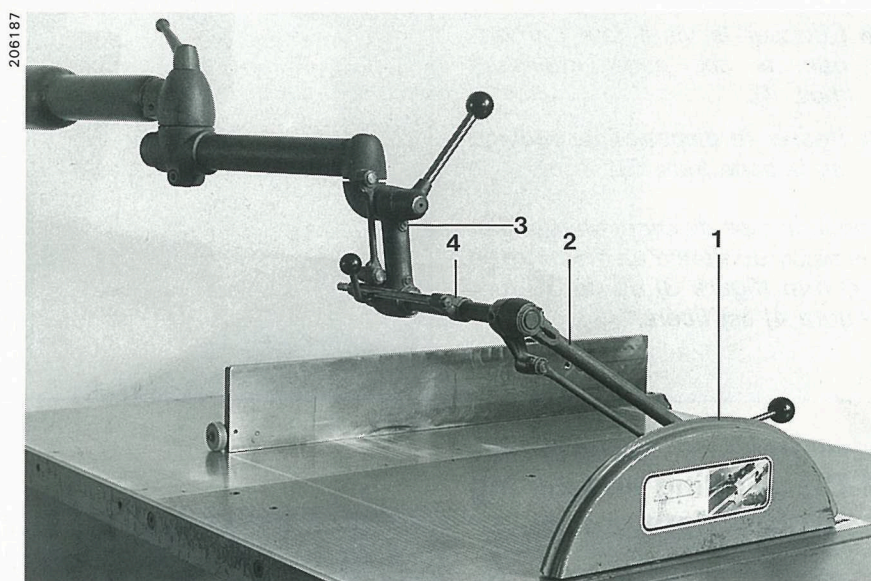

Bild 1 / Figure 1
sind zu demontieren (Bild 1).
(pos. 3) [la broche guidée (pos. 4) également, si existante] (figure 1).
The safety guard (item 1), the guard support (item 2) and the adjusting mechanism (item 3) - as well as the axle positioning device (item 4) if fitted - must be removed (Fig. 1).